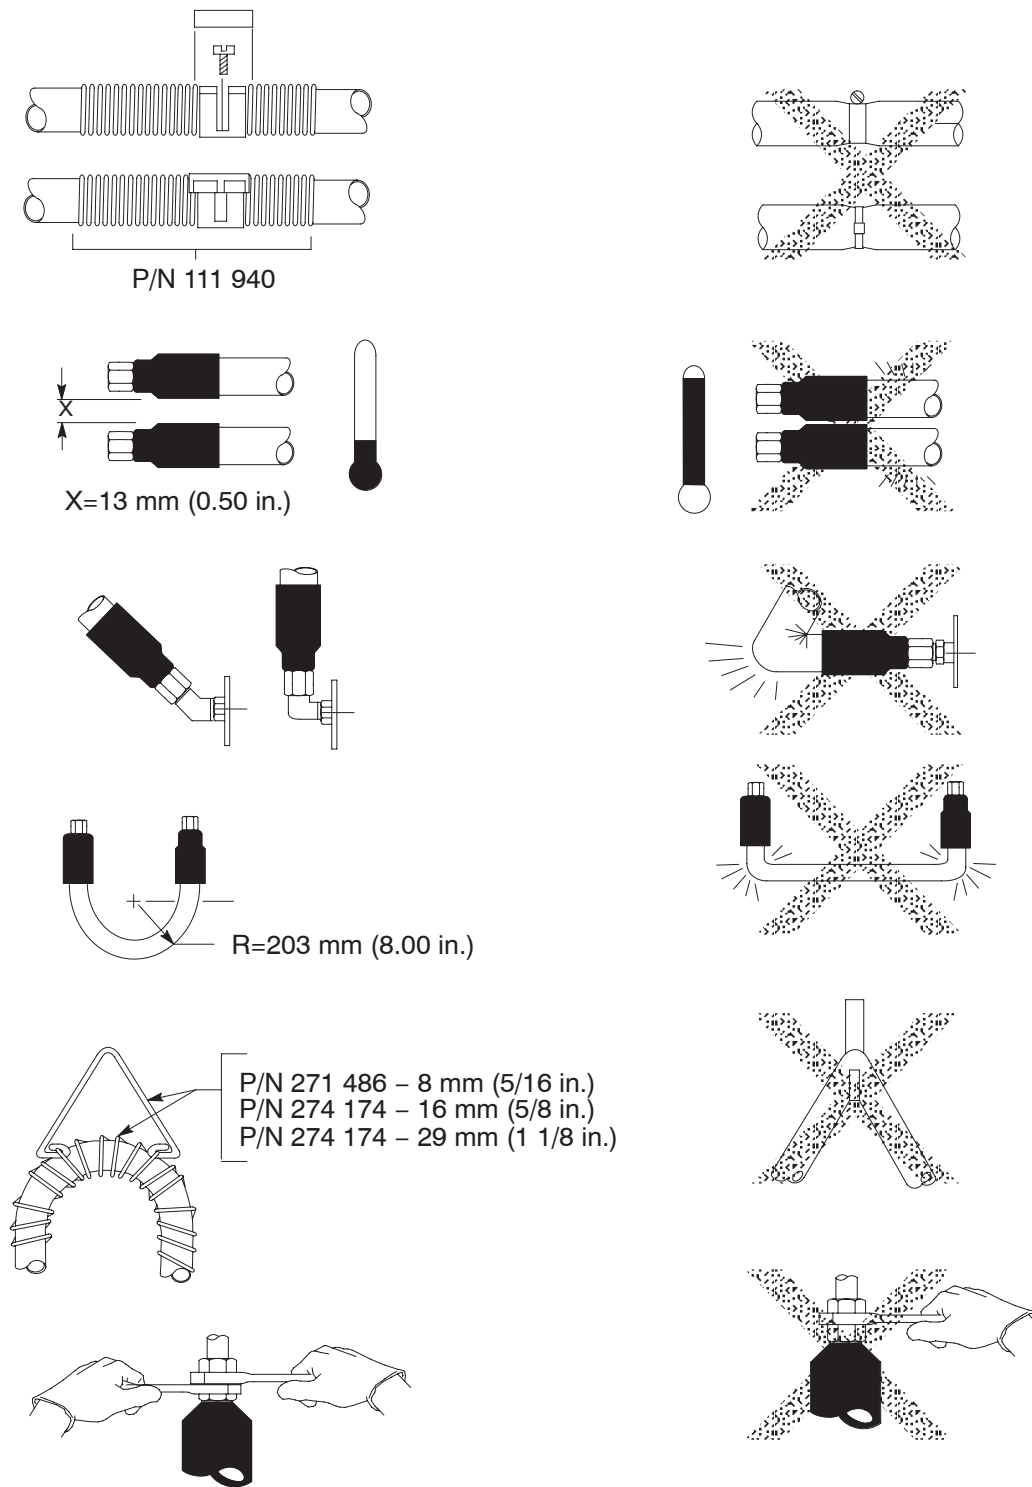

Figure 3-5 Hose installation guidelines
- Choose a location that will allow you to properly route the hoses from the applicator to the melter. Figure 3-5 provides hose routing guidelines.
1. Connect the hose to the adhesive supply port on the applicator, using a hose fitting as necessary. Use two wrenches to connect the hose as shown in Figure 3-5.
3. Route the hose to the melter and connect it to the melter hydraulically and electrically as directed in the melter manual. Follow the hose routing guidelines shown in Figure 3-5.